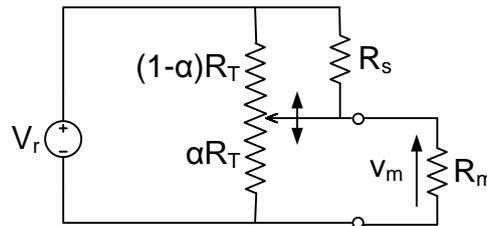

Figure 7: Displacementsensor with processing circuit.
The driver of a car can control the power delivered by the engine through the throttle pedal. When moving this pedal, the driver changes the amount of fuel or the fuel/air mixture. This allows the driver to control the speed of the car. Traditionally, the throttle pedal has been connected with a carburetor valve using a so called bowden cable. Modern cars use a “drive-by-wire” system that replaces this cable with an electric system. These systems use a sensor to sense the position of the throttle pedal. One option would be to use a resistive displacement sensor such as the one shown in Figure 7. This sensor can be used to measure linear displacements of an object. The sensor consists of a variable resistor  $R_T$ , a fixed resistor  $R_s = R_T/a = 3000 \Omega$  and a constant voltage supply  $V_r = 9 \text{ V}$ . The sensor is connected to a measurement circuit with a purely resistive impedance  $R_m = R_T/b$  with a resistance of  $3000 \Omega$  (i.e.,  $a = b$ ). This measurement load causes a loading error in the output voltage  $v_m$  of the sensor.
- (5p) (a) Show that the output voltage  $v_m$  of the circuit shown in Figure 7 is equal to: